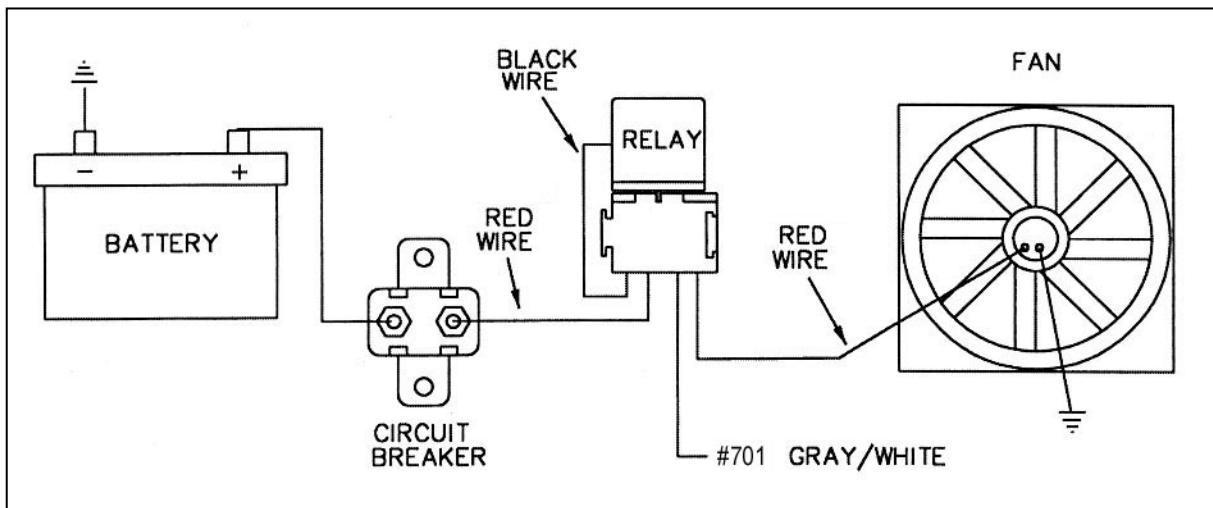

Figure 7.7 Painless Fan Relay Kit (Part #30101)
- 7.6.4** Connect HEADLIGHT SECTION A wire #701 (gry/wht) to the Electric Fan Relay. This wire is an activation wire for the relay, **NOT A POWER FEED**. The other end of wire #701 is in the ACCESSORY SECTION SWITCHES and should be connected to the electric fan switch in the dash. **Figure 7.7** shows a typical fan relay installation.